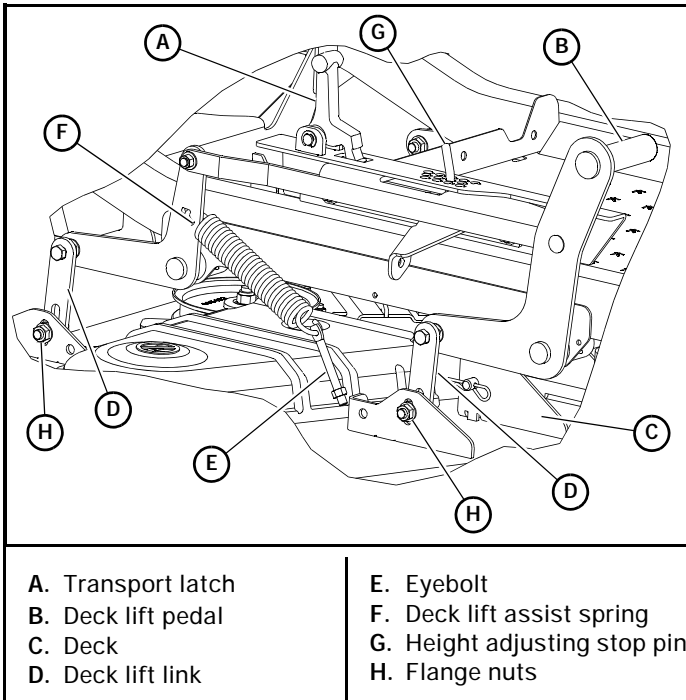

Figure 6-3
3. Using the deck lift pedal, raise and lock the deck in the transport position. Figure 6-3
5. Remove the height adjusting stop pin and lower the deck until it rests on the support blocks. Figure 6-3
6. Loosen the four flange nuts attaching the four deck links to the deck. Figure 6-3
10. Tighten the four deck links to the deck with the flange nuts clamping on either side of the slot with 48 ft-lbs (65 N·m) of torque. Release the deck lift pedal and ensure that the deck can be raised and locked into the transport position. Figure 6-3